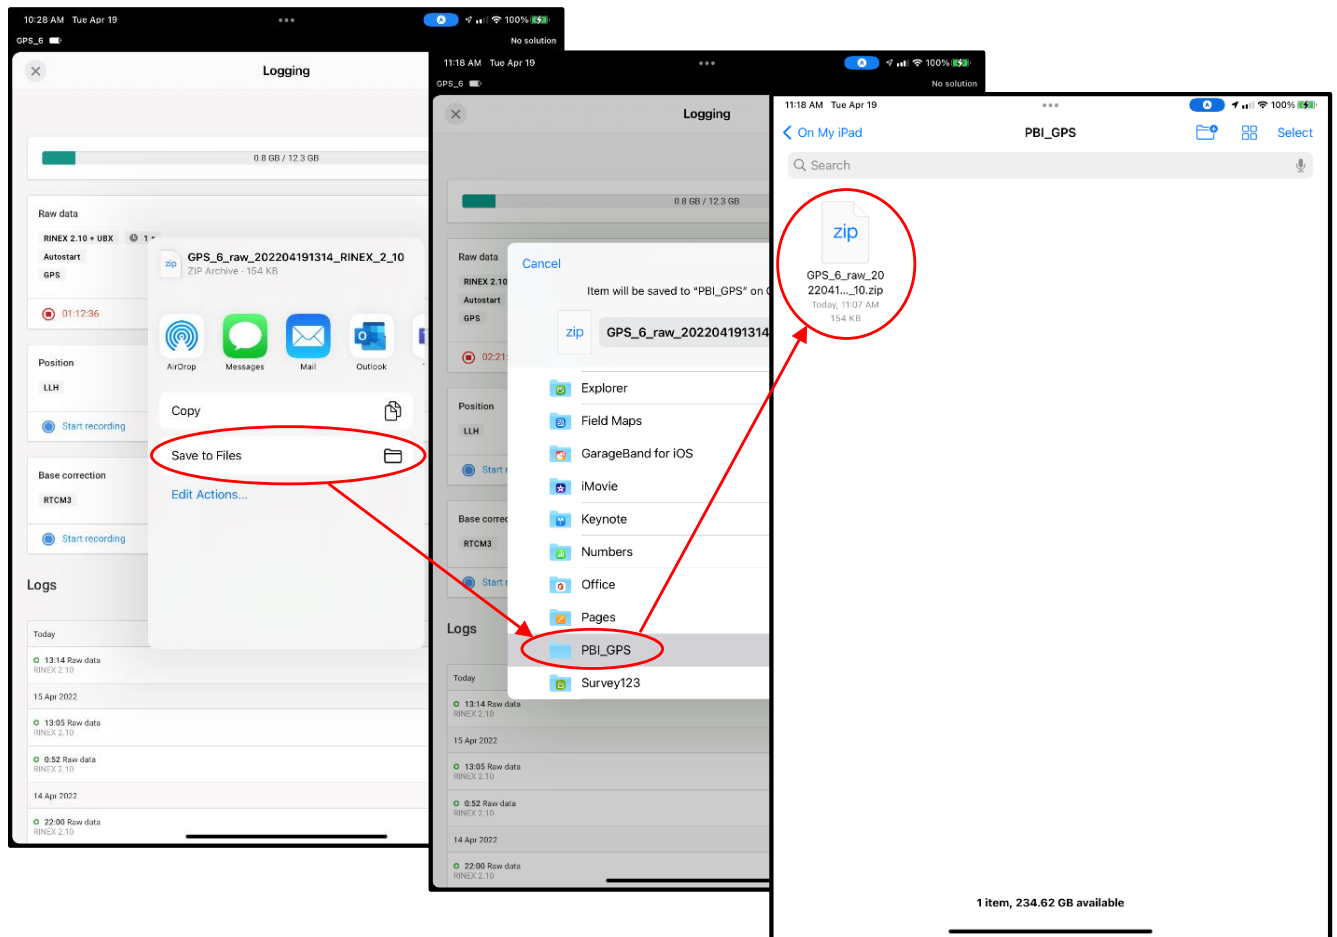

Figure 36. Figure showing Emlid Reach RS2 workflow on iPad mini for saving GPS file to PBI_GPS folder with red circles and arrows showing the workflow
- f. Following selection of the download icon, an options display will come up (Figure 36)